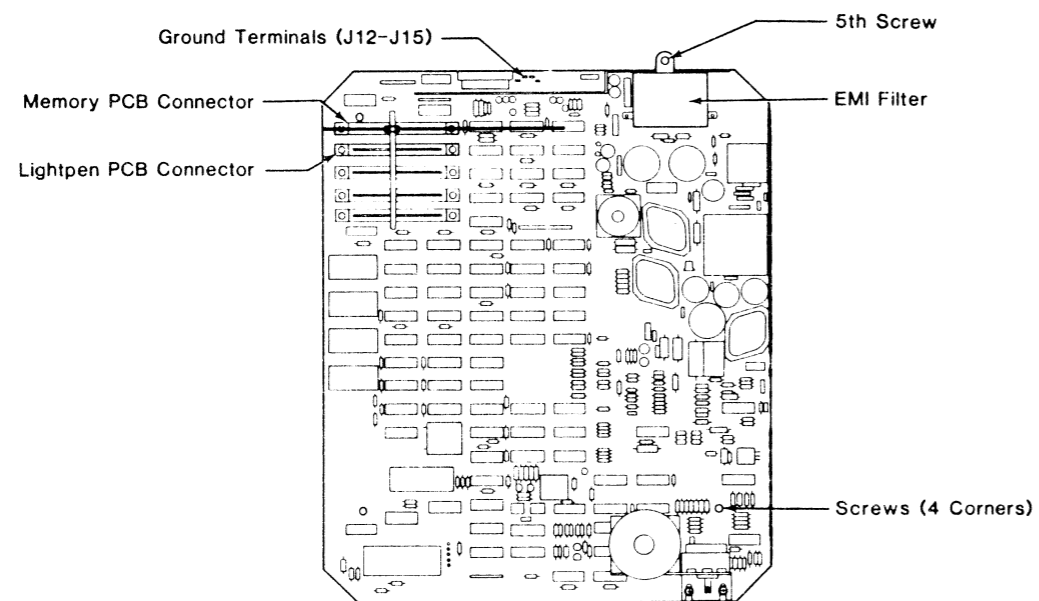

FIGURE 2. POINTS OF INTEREST ON MAIN LOGIC PCB
- 9) USING FIGURE 2 AS A GUIDE, REMOVE THE FIVE SCREWS THAT SECURE THE MAIN LOGIC PCB TO THE BOTTOM HALF OF THE HOUSING. FOUR OF THE FIVE SCREWS ARE LOCATED TOWARDS THE FOUR CORNERS OF THE MAIN LOGIC PCB AND CAN BE REMOVED FROM THE TOP OF THE MAIN LOGIC PCB. THE FINAL SCREW IS LOCATED ON THE OUTSIDE OF THE HOUSING AT THE RIGHT, REAR. THIS FINAL SCREW IS INSERTED VERTICALLY THROUGH THE HOUSING INTO THE MAIN LOGIC PCB GROUND BUS (ALSO SERVING AS THE EMI FILTER MOUNTING BRACKET). THERE IS A COPPER WASHER BETWEEN THE GROUND BUS AND THE HOUSING; SAVE THIS WASHER FOR USE DURING THE ASSEMBLY PROCESS.
- 12) REMOVE THE MEMORY PCB (REFERENCE FIGURE 2) FROM ITS CONNECTOR ON THE MAIN LOGIC PCB; NOTE THAT THE MEMORY PCB COMPONENTS FACE TOWARDS THE FRONT OF THE DISPLAY UNIT WHEN THE PCB IS INSTALLED.